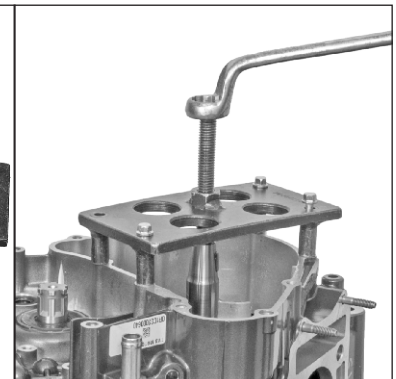

Fig. 1.7B
- Used to separate the LH and RH side crankcases. (Fig. 1.7B)